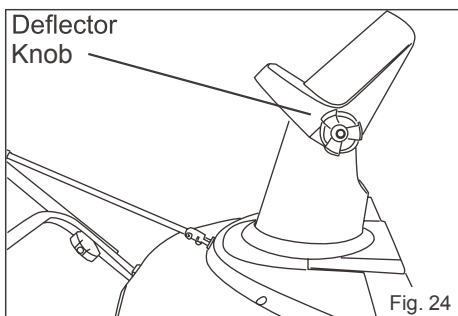

Fig. 24
- The chute deflector on the top of the discharge chute controls the height of the snow stream. Loosen the knob to raise or lower desired height of snow you wish to throw. Tighten the knob to secure the detector (Fig. 24).
**WARNING:** Make sure that the chute deflector snaps and locks completely onto the discharge chute. An opening between the discharge chute and the chute deflector may allow foreign objects to be picked up by the snowblower and thrown in the direction of the operator causing serious boldly injury. Do not advance the chute deflector too far forward causing an opening to appear between the deflector and discharge chute. Do not over tighten the knobs on the chute deflector (Fig. 24).